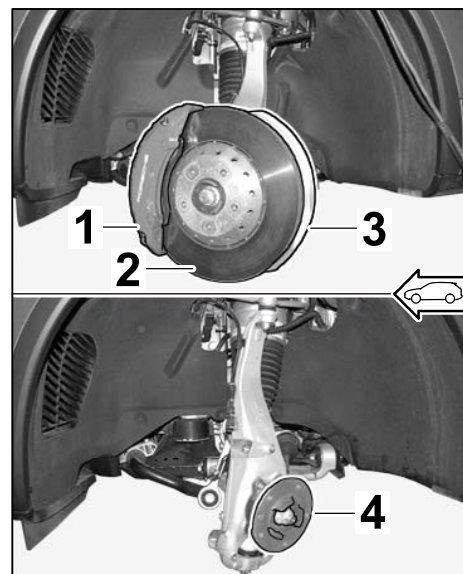

Figure 5
2.1.1 Remove front brake caliper (left ⇒ *Figure 5 -1-/right*) ( ⇒ *Workshop Manual '473919 Removing and installing front brake calliper*).
2.1.2 Remove front brake disc (left ⇒ *Figure 5 -2-/right*) ( ⇒ *Workshop Manual '465019 Removing and installing front brake disc*).
2.1.3 Remove cover plate on front brake disc (left ⇒ *Figure 5 -3-/right*).
2.1.4 Clean the levelling and centering surfaces on the wheel hubs ( ⇒ *Figure 5 -4-*). Apply a very thin coat of Optimoly TA to the centering surfaces.